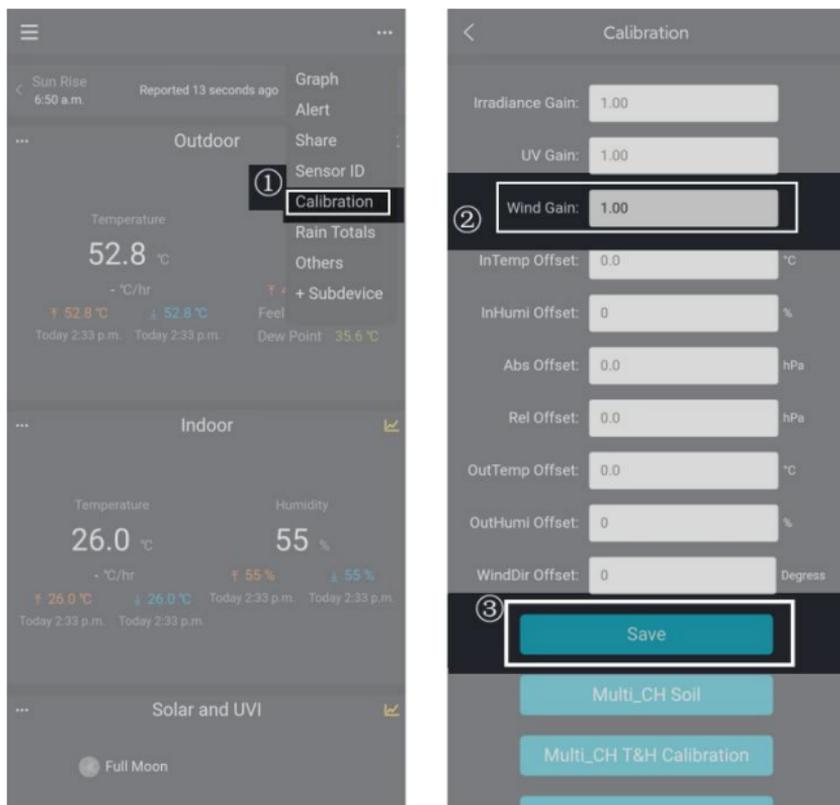

Figure 8
4. For a certain parameter(Use Indoor temperature as an illustration in the Figure 8). Calculate the offset of data from accurate weather station and ecowitt sensor.